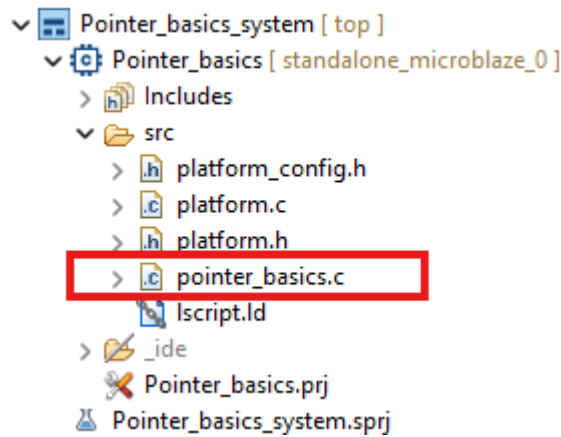

Figure 4.
- As shown in the Figure 4, in **Project Explorer**, expand the **Pointer_basics** → **src** folder.